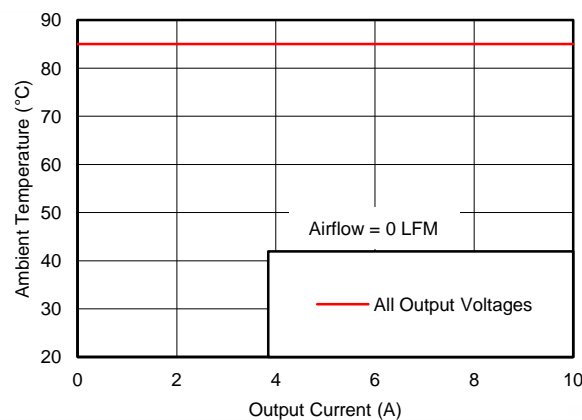

Figure 16. Safe Operating Area
- (2) The temperature derating curves represent the conditions at which internal components are at or below the manufacturer's maximum operating temperatures. Derating limits apply to devices soldered directly to a 100 mm × 100 mm double-sided PCB with 2 oz. copper. Applies to Figure 16.